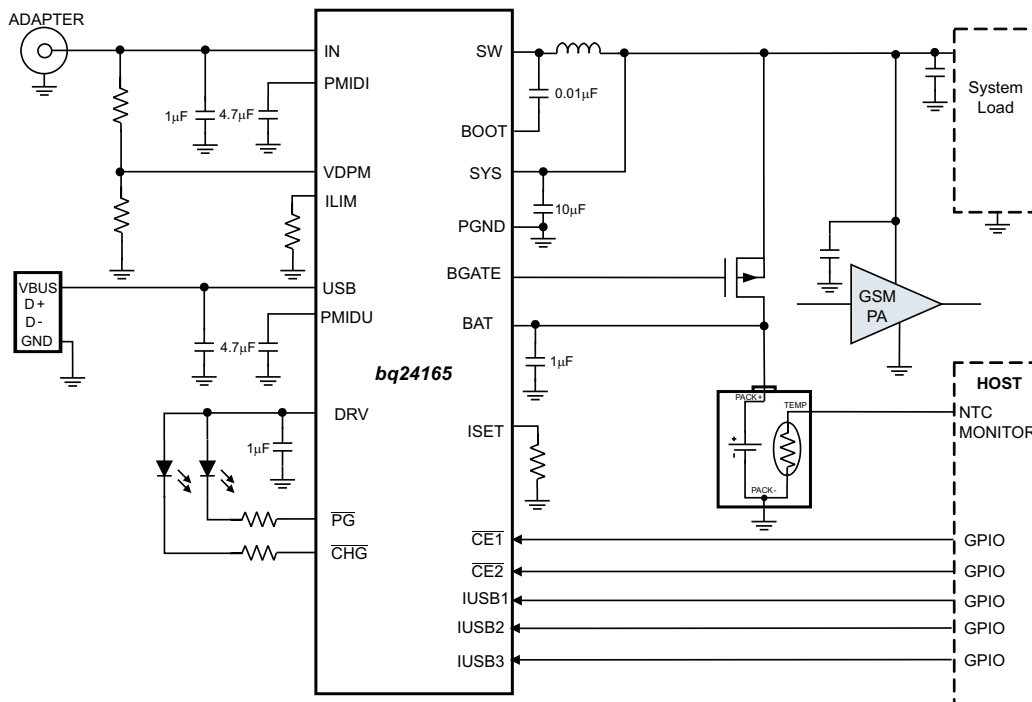

Figure 1. bq24165, Shown with External Discharge FET, PA Connected to System for GSM Call Support with a Deeply Discharged or No Battery
The charger's constant current (CC) loop regulates the charge current to I_{CHARGE} until the battery reaches close to the regulation voltage. Once the battery voltage is close to the regulation voltage, V_{BATREG} , the charge current step downs sharply as the constant voltage (CV) loop takes over, the internal battery FET turns on full, tying SYS to BAT and the charger tapers down the charge current as shown in Figure 1. The voltage regulation feedback occurs by monitoring the battery-pack voltage between the BAT and PGND pins.